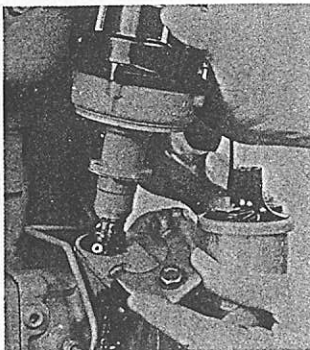
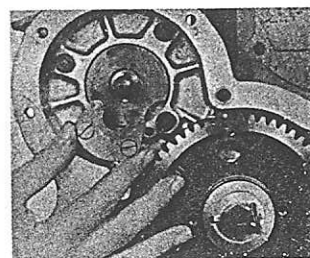
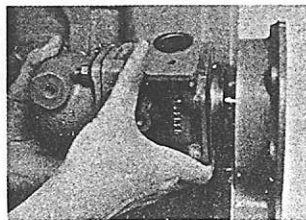

Fig. 81—Remove distributor clamp and lift out distributor assembly.
Fig. 82—Removing governor shaft thrust plate.
Fig. 83—Removing governor housing assembly.
80. A disassembled view of distributor drive unit and governor assembly is shown in Fig. 80. To remove or disassemble the unit, first remove timing gear cover as outlined in paragraph 69 and governor gear as in paragraph 73. Remove the distributor as shown in Fig. 81 and governor shaft thrust plate as shown in Fig. 82. Disconnect governor and throttle linkage and unbolt and remove housings as shown in Fig. 83.